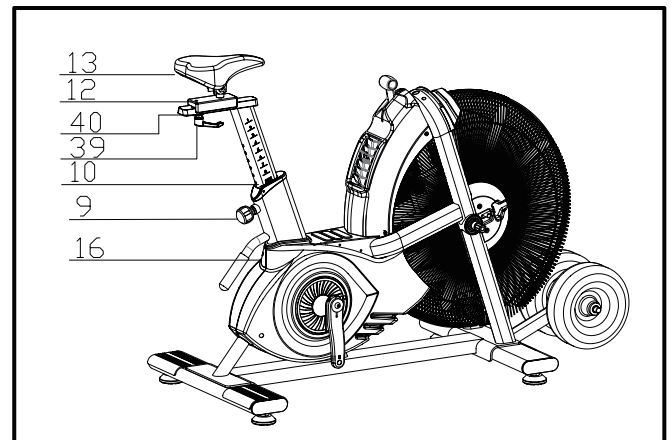

Fig. 2
### STEP 2 (FIG. 2):
2. The device will then enter display standby mode (as shown in Figure 2), with icons appearing sequentially from top to bottom.
(FIG 2)